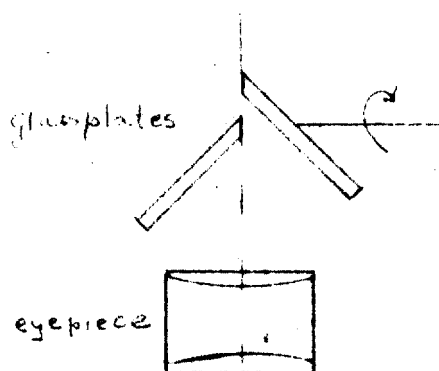
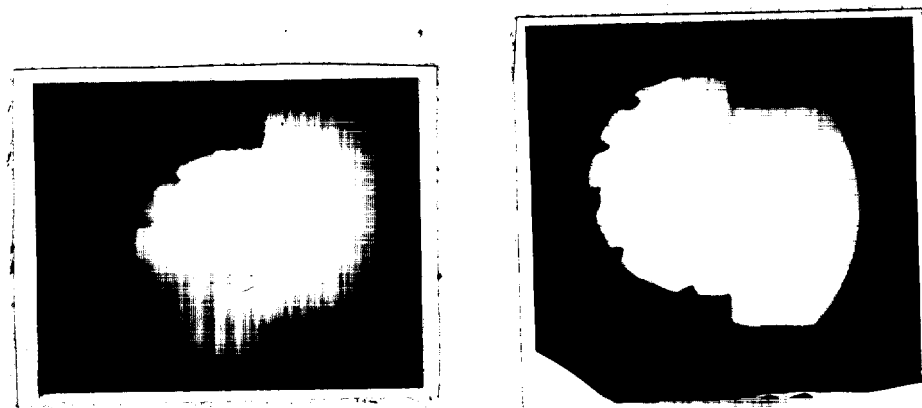

Fig. 1
Fig. 2
2. In order to have an objective measurement we have to introduce a split field arrangement close to Image Plane 2, indicated in Fig. II-2 of our proposal. Some tests were performed with a setup as shown in Fig. 1.
The desired goal is to split the field in two halves with a sharp dividing line between the two halves. The shown inclination of the glass plates in fig. 1 allows us to effectively get a sharp dividing line. A rotation around axis a, as shown in the figure, will displace one-half of the field. This is necessary because of the way the filter is used (a phase change of  $180^\circ$ ) and for the phase measurements. Fig. 2 shows the effect of this arrangement in a crude form.